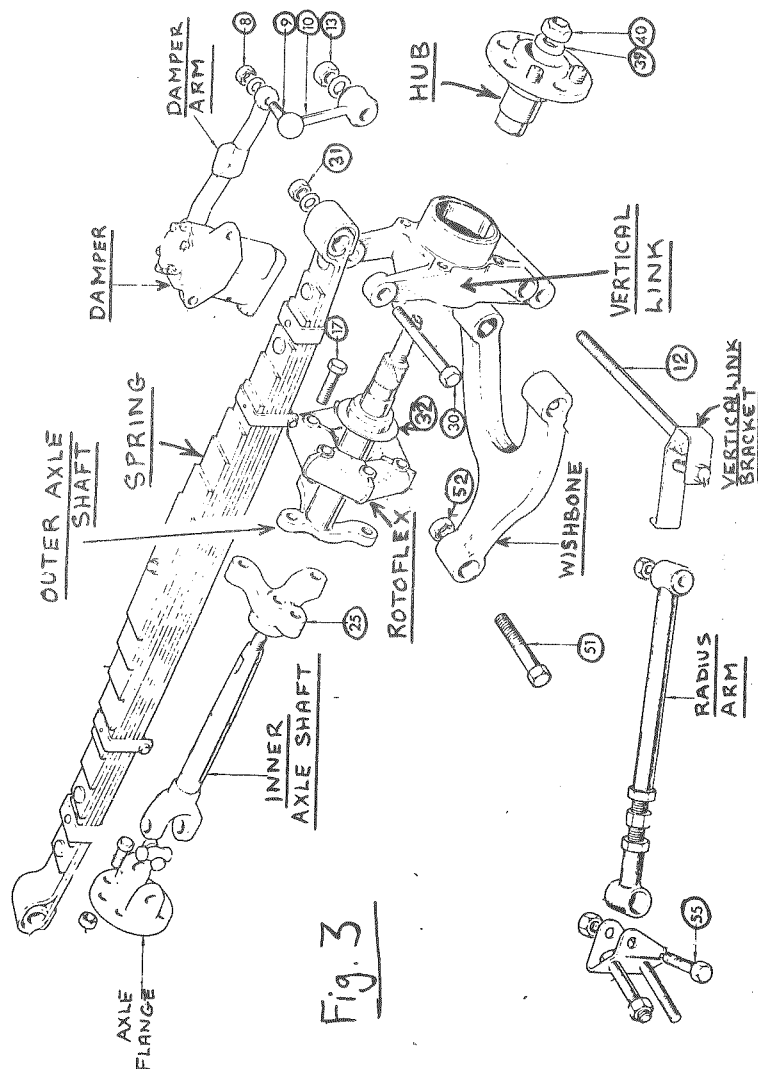

Fig. 3
Don't try this without the tool as it's rather dangerous and almost impossible to reassemble the axle without it. With the spring in this position, remove the bolt attaching the radius arm to the vertical link bracket in fig. 3 (11/16" and 3/4"), and swing the radius arm down out of the way. You may have to slacken the bolt at the other end of the radius arm to do this (item 55).